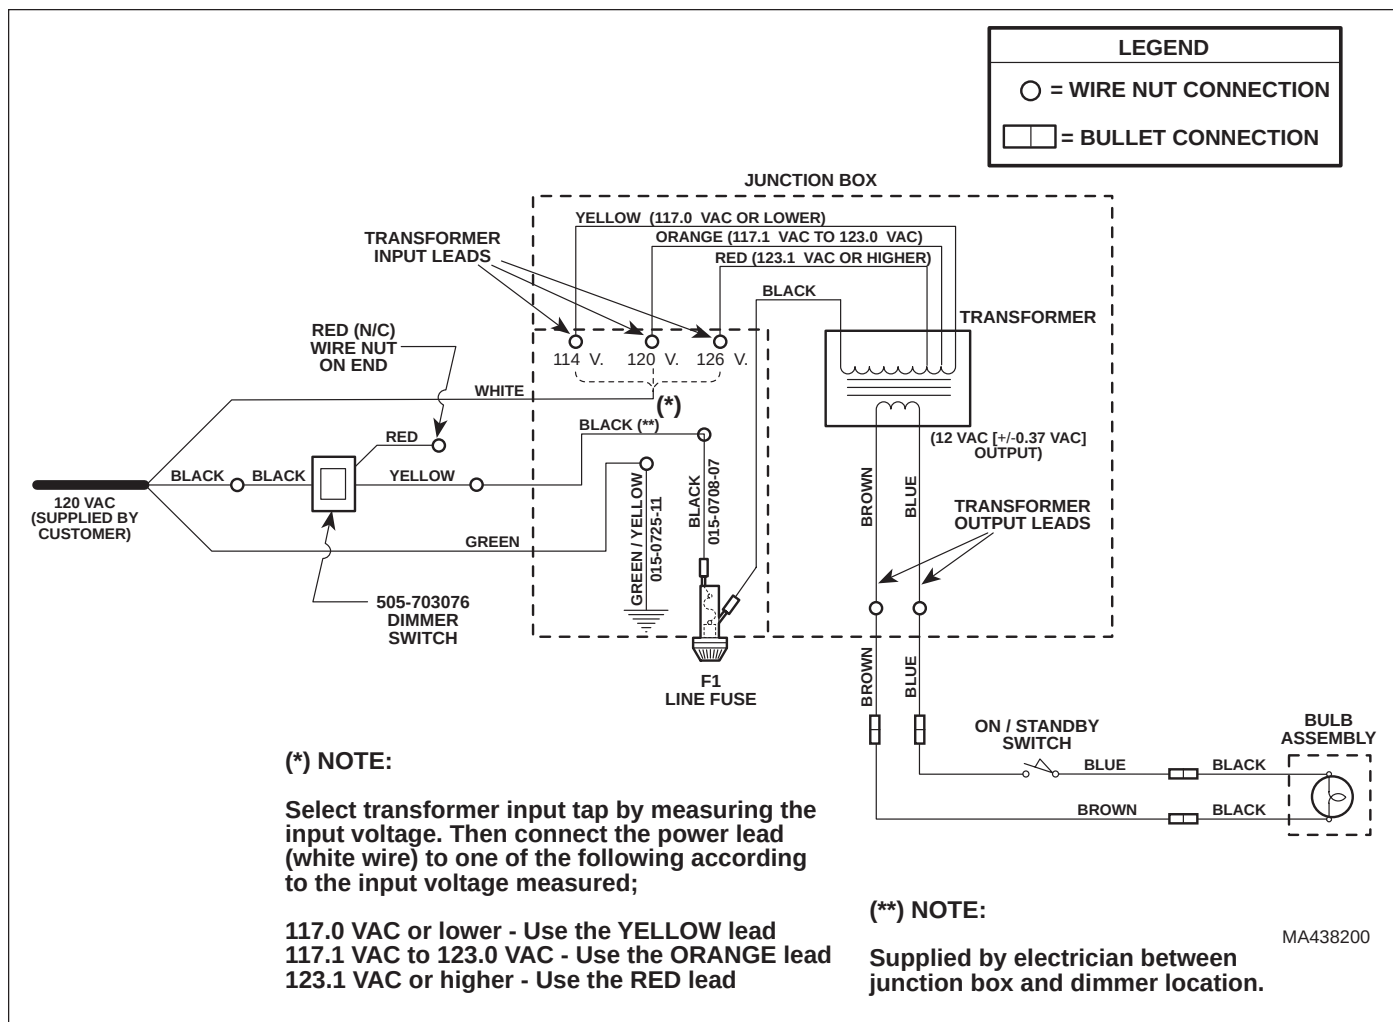

FIGURE 1
2. Wire the dimmer control as shown in Figure 1.